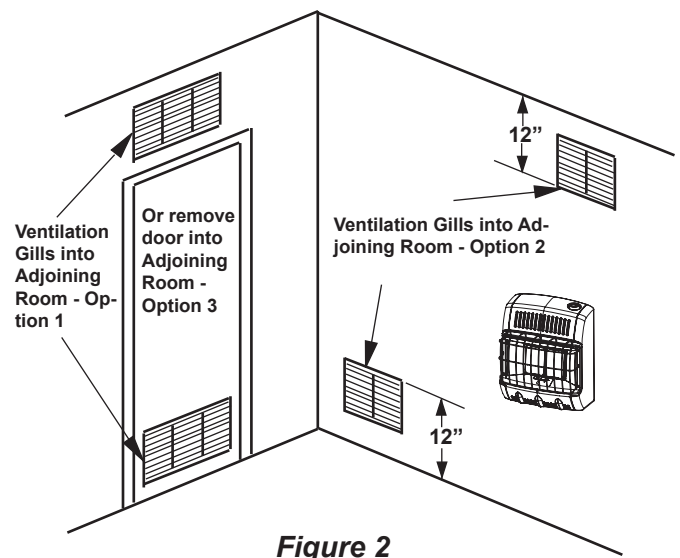

Figure 2
- Rework worksheet, adding the space of an adjoining room. If the extra space provides an unconfined space, remove door to adjoining room or add ventilation grills between the rooms. See Ventilation Air From Inside Building (Fig. 2)
This fresh air would come from an adjoining unconfined space. When ventilation to an adjoining unconfined space, you must provide two permanent openings: one within 12" of the ceiling and one within 12" of the floor on the wall connecting the two spaces (see options 1 & 2 of figure 2). You can also remove door into adjoining room (see option 3, fig 2). Follow the National Fuel Gas Code NFPA 54/ ANSI Z223.1, Section 5.3, Air for Combustion and Ventilation for required size of ventilation grills or ducts.